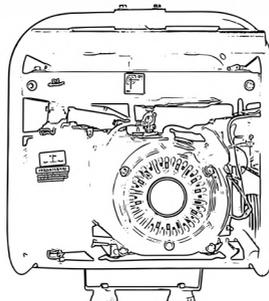

Figure 9: Front of the device
- Have a second person tilt the appliance to the side of the cable pull (front). See Fig.9.